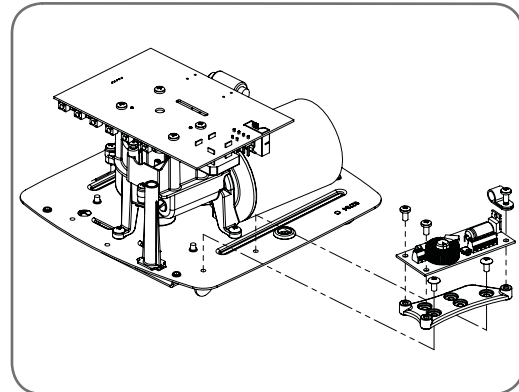

Fig 51
- Mount the pcb support with two screws. Secure the SBY-3 charger board on to pcb support with 3 screws. (Fig. 51).